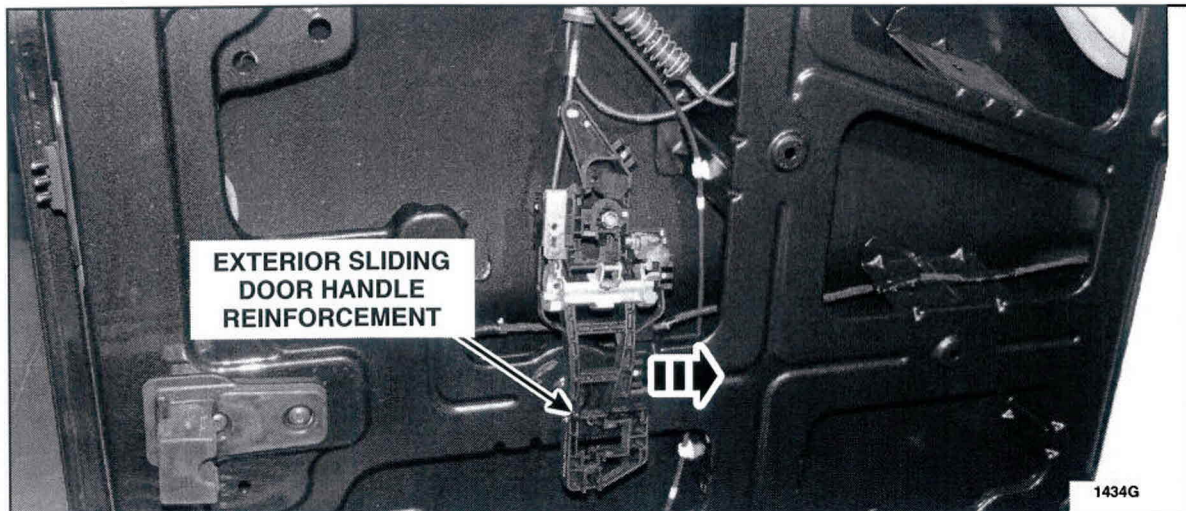

FIGURE 7
8. Detach the exterior sliding door handle reinforcement from the sliding door and position aside. See Figure 7.